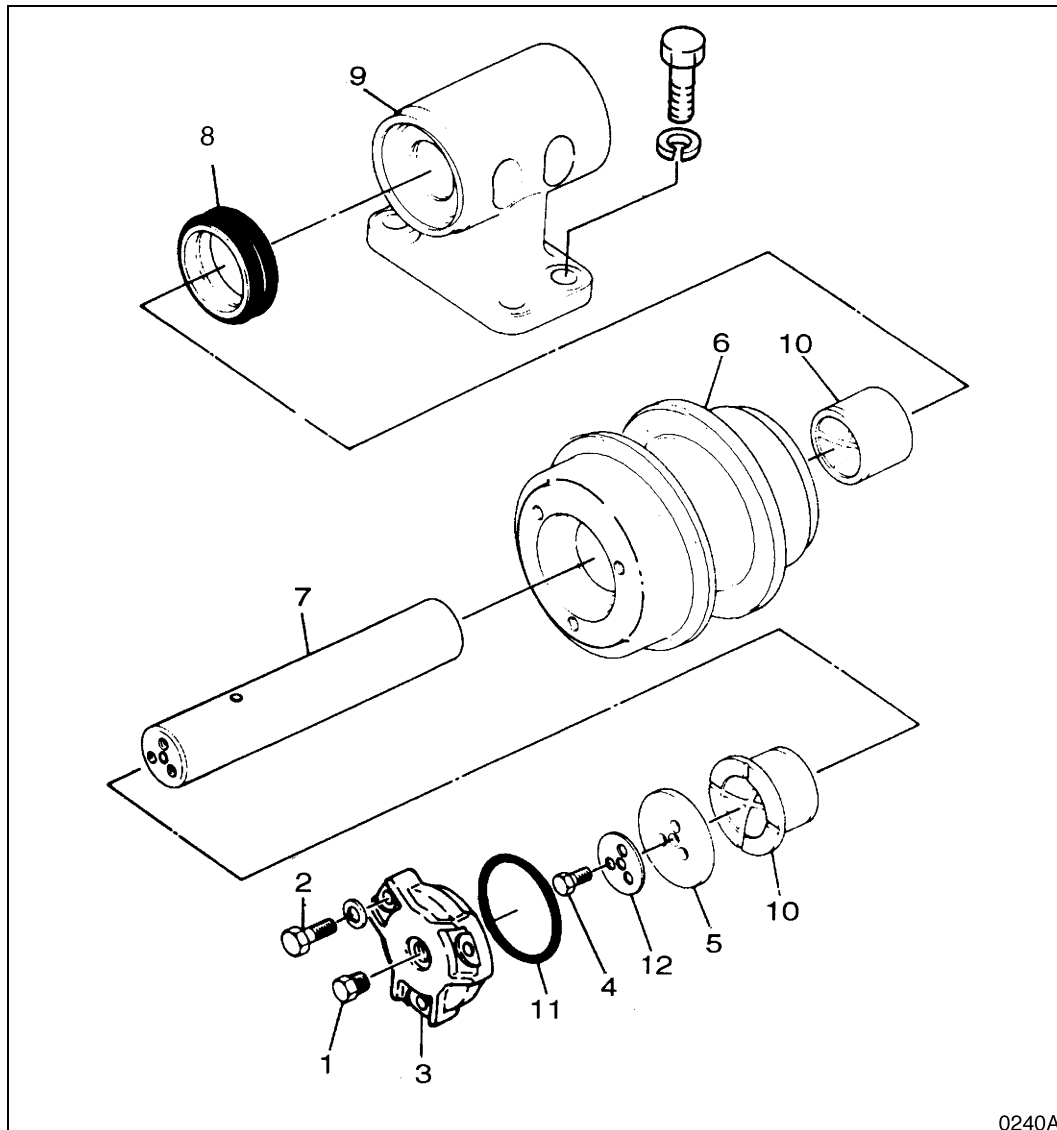
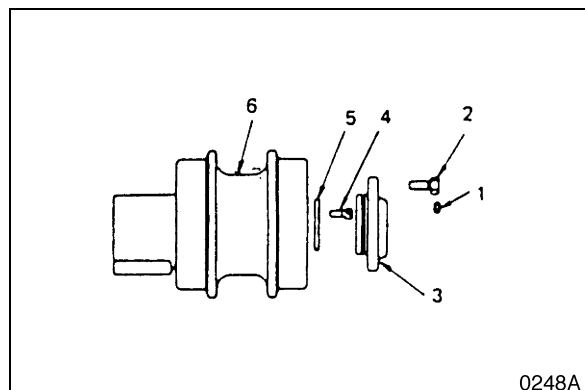

Figure 39
Figure 48
3. Install the axle, washer (5, Figure 48) and bolt (4).
4. Attach group seal (8, Figure 39) to roller (6, Figure 48) and cover (3).
5. Insert O-ring (11, Figure 48) to the cover. Attach cover (3) and bolt (2) to the roller.